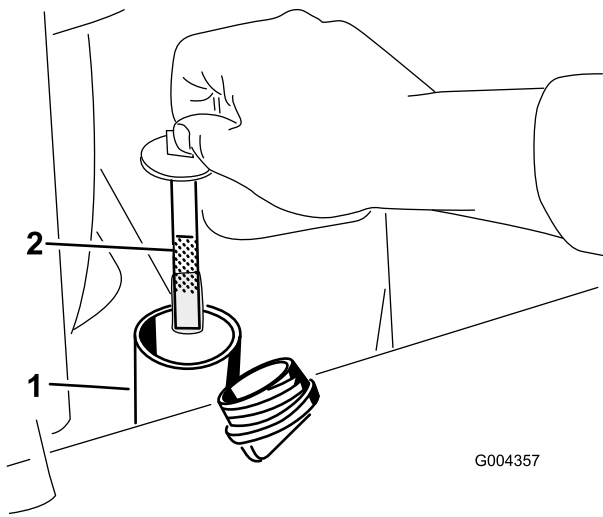

Figure 60
6. Remove the filler-neck cap and check the fluid level on the dipstick (Figure 60).